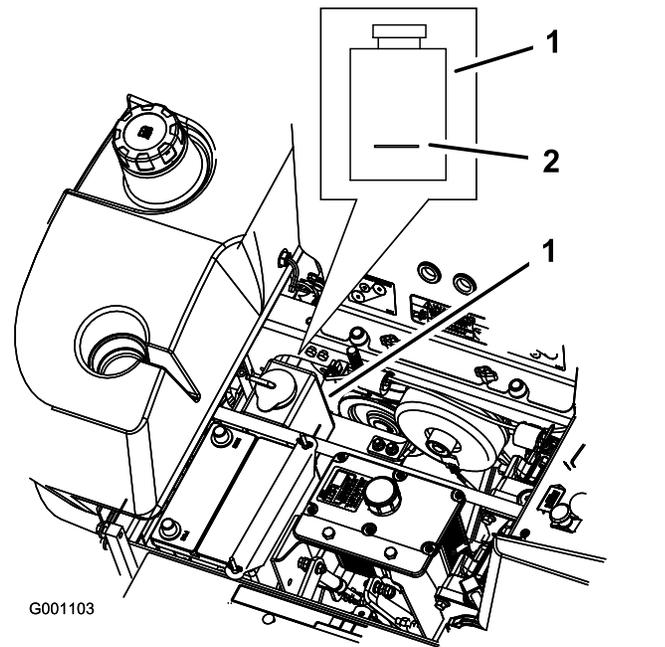

Figure 83
3. With the engine cool, check the overflow bottle level. The fluid needs to be up to the bump on the outside of the overflow bottle (Figure 83).
4. If the coolant level is low, add a 50/50 mix of extended life antifreeze/Dex-Cool® and water to the overflow bottle (Figure 83).
5. Add the 50/50 coolant mix to the overflow bottle and fill it to the indicator line on the bottle (Figure 83).